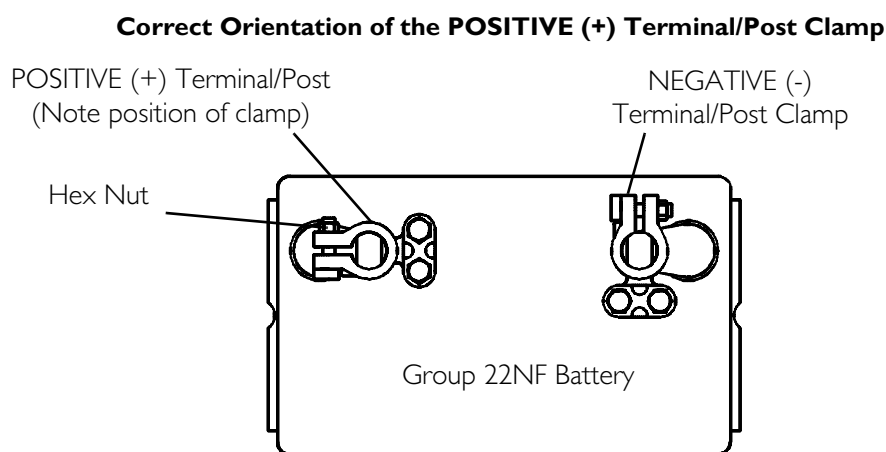
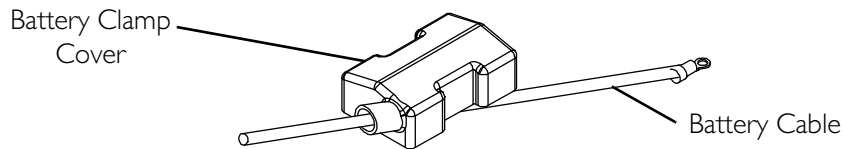

FIGURE 12.7 Connecting Battery Cables - Battery Clamp Method
FIGURE 12.8 Installing Battery Clamp Cover
- Dual Group 22NF Batteries without Mounting Holes in the Terminal(s)/Post(s) - Use battery clamp method. Refer to FIGURE 12.7, FIGURE 12.8 and FIGURE 12.9.
The battery clamp of the **POSITIVE (+)** battery terminal/post **MUST** be mounted in the position shown in **FIGURE 12.7**, otherwise the battery box top cannot be installed properly.
NOTE: For this procedure, refer to FIGURE 12.7, FIGURE 12.8 on page 61 and FIGURE 12.9 on page 62.
- If the battery clamp of the POSITIVE (+) battery terminal/post is NOT mounted in the orientation shown in FIGURE 12.7, perform the following:
- iii. Reposition the battery clamp on the POSITIVE (+) battery terminal/post as shown in FIGURE 12.7.
- If the battery clamp on the POSITIVE (+) battery terminal/post is positioned as shown in FIGURE 12.7, proceed to STEP 2.
2. Install battery clamp covers onto battery cables (FIGURE 12.8) -